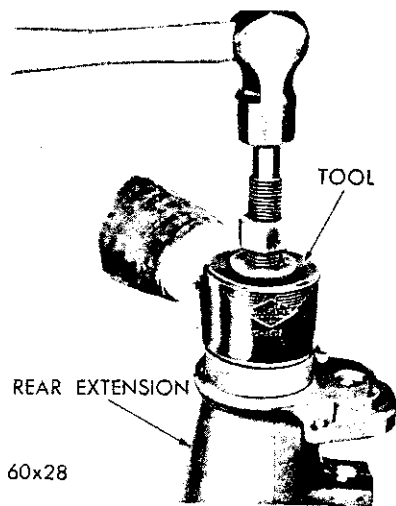

Fig. 27—Installing Output Shaft Rear Bushing
(1) Place a new bushing on drive burnisher, Tool C-3692, with lubrication hole in bushing toward end of the tool. Align the hole in bushing with lubrication hole in the housing and drive the bushing into housing until the tool bottoms (refer to Fig. 27).